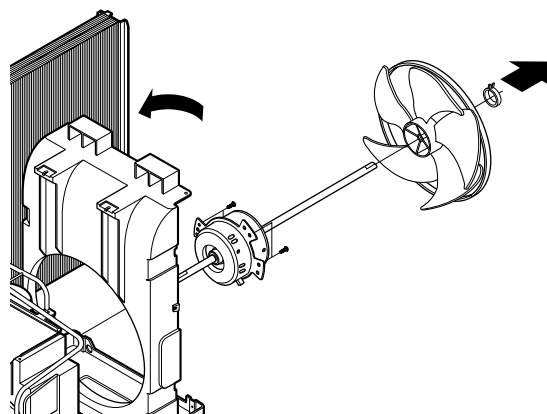

Figure 15
4. Remove the 4 screws which fasten the motor from the Motor Mount. (See Figure 15)
6. Re-install the components by referring to the removal procedure, above. (See Figure 15)